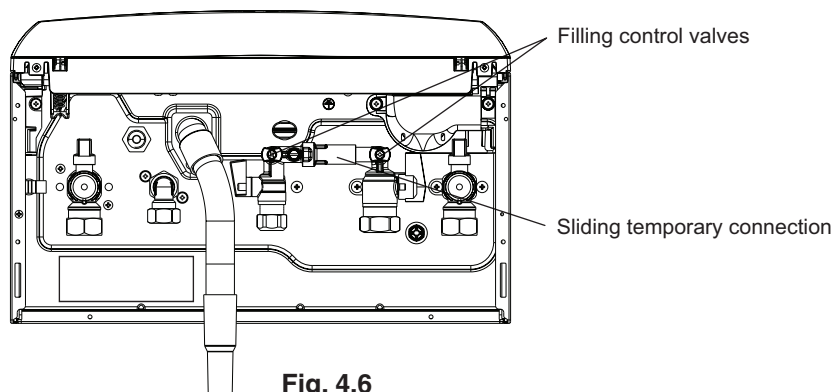

Fig. 4.6
4.7 FILLING THE CENTRAL HEATING SYSTEM - Fig. 4.6